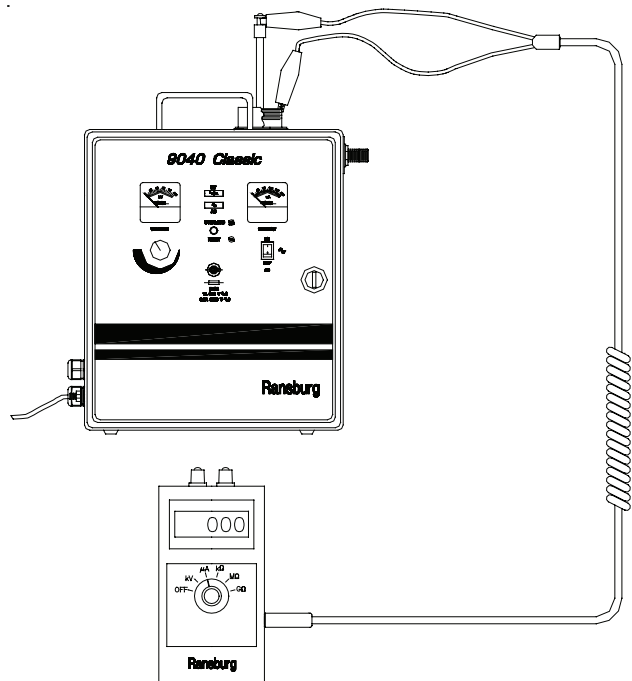

Figure 5: Testing SCI on Power Supplies
1. Set the meter dial to the μA scale (see Figure 5).
1. Set the meter dial to the μA scale (see Figure 5). Plug the probe with two (2) alligator clamp leads into the side of the meter. Check the meter calibration by touching the metallic ends of the two (2) probes together. If the meter reads zero, the meter is in calibration. If it does not read zero, verify the continuity of the probe assembly and re-perform the check. If the meter still does not read zero, consult the factory for repair of the meter.